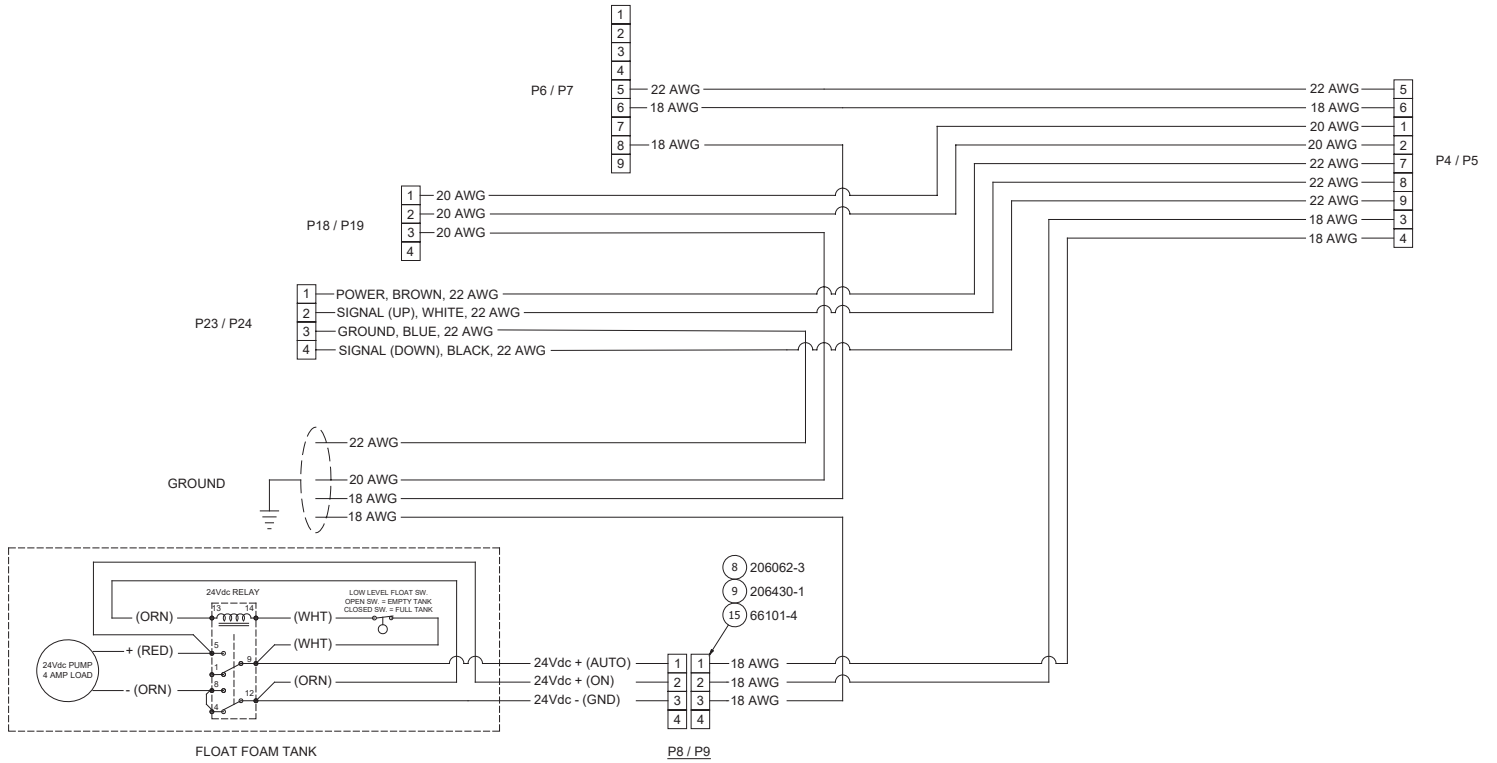

Figure 6
3. Install the noted pins, connector, & cable clamp to P8/P9 per the wiring diagram in Figure 6.